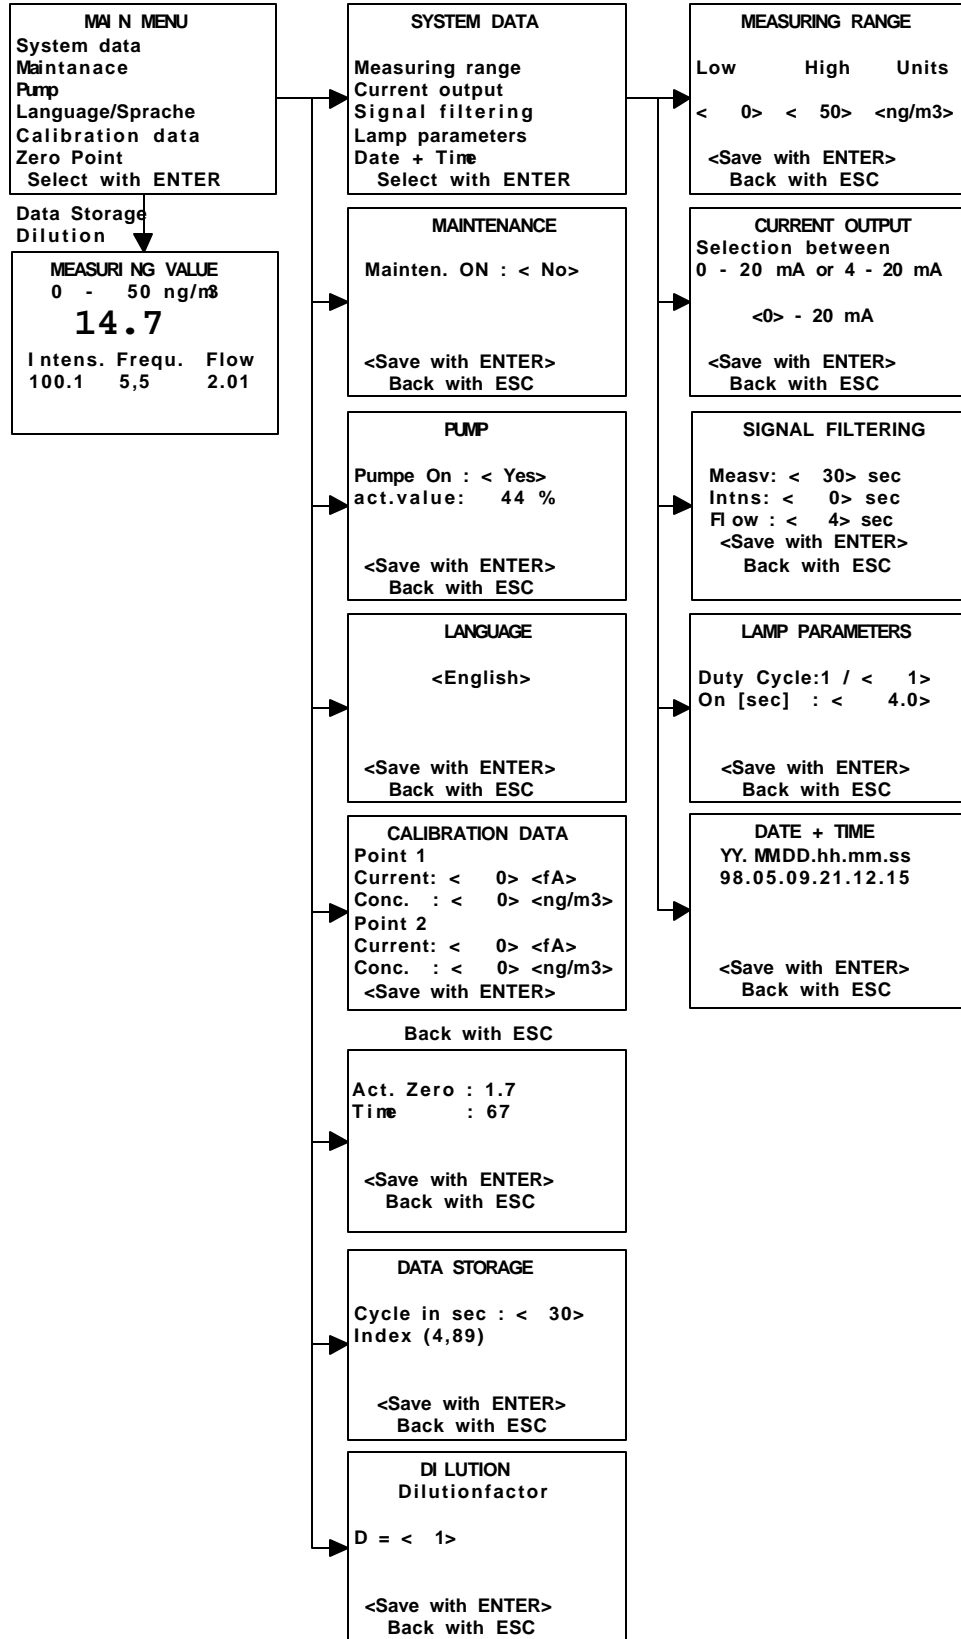

Fig. 5 : Overall Flowchart of the Screens in the User Interface
- ❑ If you are lost in the Menu scheme, do not worry !!! Simply press the **ESC** key a couple of times and you will finally end up on the **MAIN MENU** screen. This is the topmost selection. Refer to Fig. 5 which provides you with an overall flowchart of the screens.